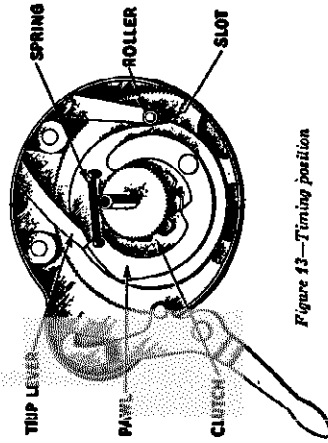

Figure 13—Timing position
When the mechanism is out of adjustment, it may be necessary to reset the mechanism after replacing parts, or because of continued operation. The mechanism should be reset in its extreme forwarding position. When this setting is reached the straight side of the cam, Figure 17, will be parallel with the side of the slide. The position of the trip lever and roller at this time to see that they are approximately as shown in Figure 13. If the various parts are not in their proper relation, the mechanism should be retimed.
- Lower the pawl carrier into mesh with the gears so that the trip lever is touching the end of the pawl as shown in Figure 13, when the cable lever roller is engaged in the slot on the side of the pawl carrier as shown.
(14) REMOVING MOTOR BOARD